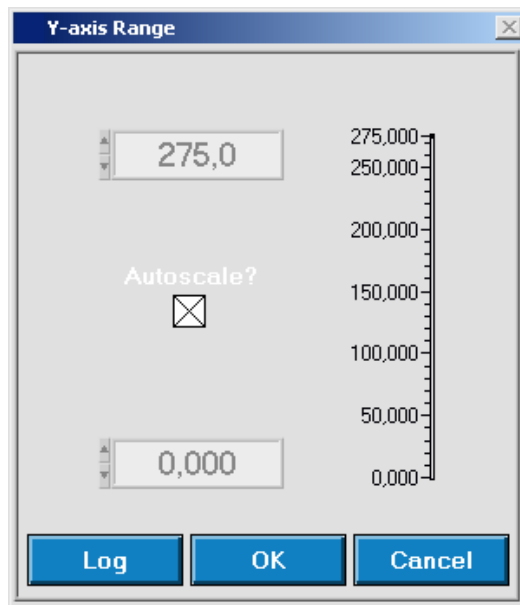

Figure 4-13. Y-Axis Range
1. The range or mapping of Y-axis can be changed for each graph in Y-axis Range dialog box. Click on Y-axis in graph to display this dialog box, as shown in Figure 4-13.